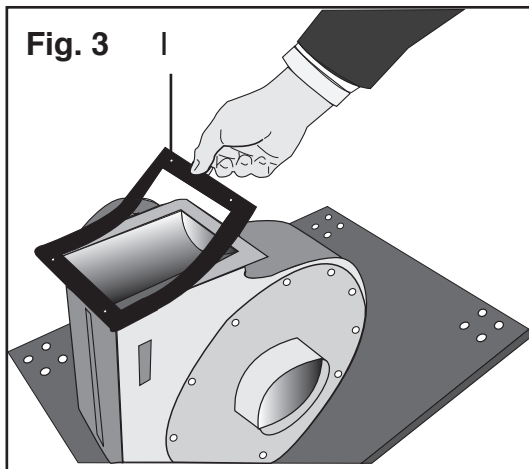

Fig. 3
Fig. 3 Place rubber seal (I) on open top of motor blower (B), then place on top of seal outlet adapter (L). Hardware needed – 6 thin hex bolts and 6 small washers and 6 small nuts.